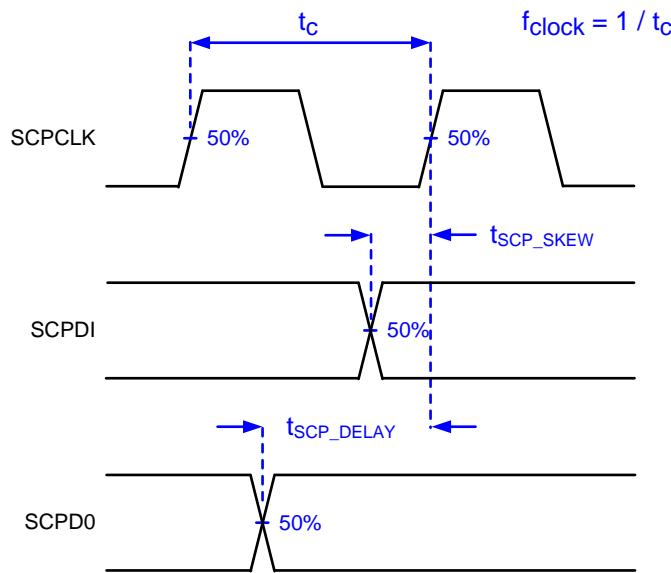

Figure 3. Serial Communications Bus Timing Parameters
- (1) Supply voltages VCC, VCCI, VOFFSET, VBIAS, and VRESET are all required for proper DMD operation. VSS must also be connected.
- (2) VOFFSET supply transients must fall within specified max voltages.
- (3) To prevent excess current, the supply voltage delta |VCCI – VCC| must be less than specified limit.
- (4) Tester Conditions for V_{IH} and V_{IL}:
- (5) PWRDNZ input pin resets the SCP and disables the LVDS receivers. PWRDNZ input pin overrides SCPENZ input pin and tri-states the SCPDO output pin.
- (6) The SCP clock is a gated clock. Duty cycle shall be 50% ± 10%. SCP parameter is related to the frequency of DCLK.
- (7) Refer to Figure 3.
- (8) SCP internal oscillator is specified to operate all SCP registers. For all SCP operations, DCLK is required.
SERIAL CONTROL BUS TIMING PARAMETERS (See Figure 3 and Figure 4)